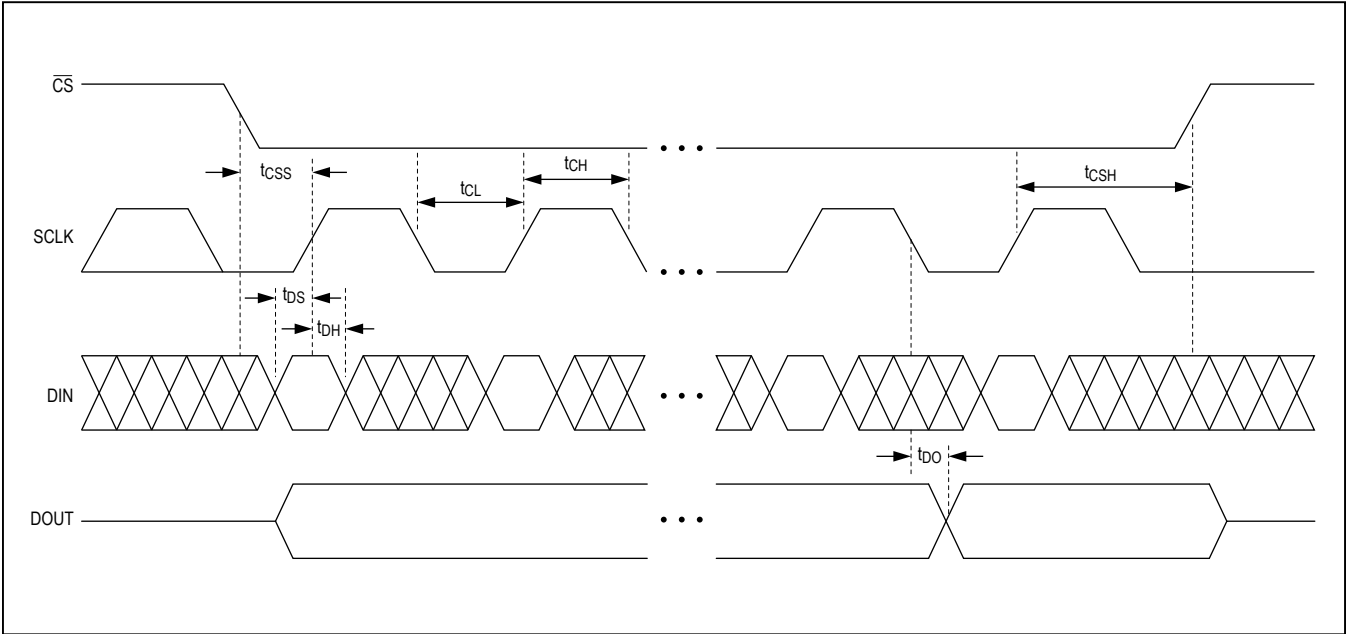

Figure 10. SPI Timing Details
switch. The switches are updated at the rising edge of $\overline{CS}$ with the last 8 bits of data shifted in only if the number of bits clocked in is greater than or equal to the number of switches (8). The data on the DOUT pin represents the end of the shift register. This will output the contents of the shift register followed by the data being shifted in on the DIN pin. Please note that the data in the shift register may not be the same as the state of the switches if there were insufficient clocks at the last rising edge of $\overline{CS}$. See Figure 10 and 11 for the SPI timing diagrams.